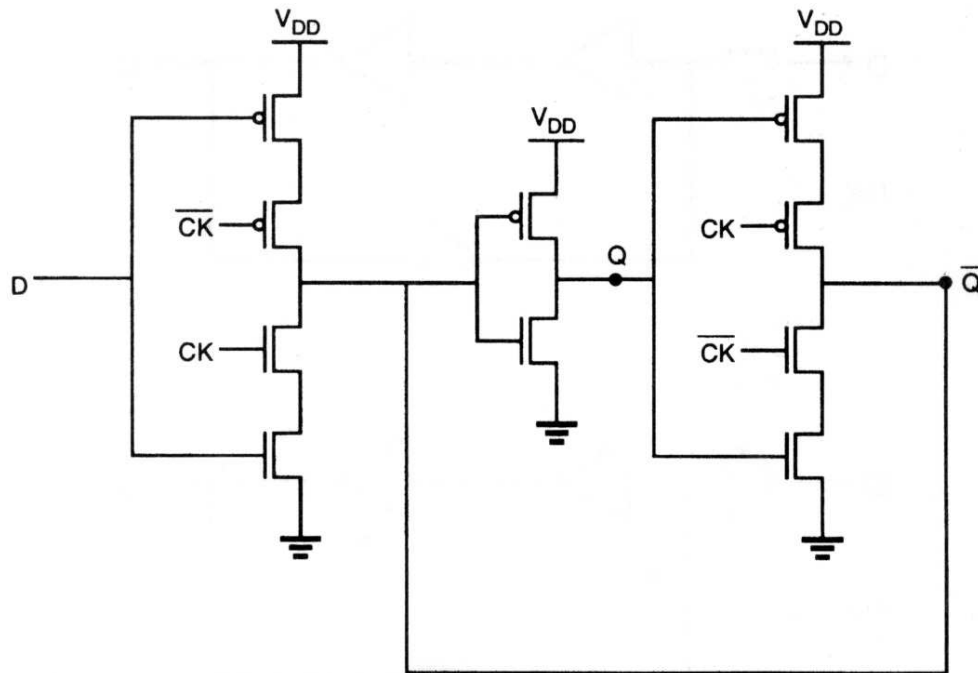

Figure 6: CMOS implementation of the D-latch
The design consists of three 4-bit registers ( $D_A$ ,  $D_B$ ,  $D_S$ ), two 1-bit registers ( $D_{C_i}$ ,  $D_{C_o}$ ), and four cascaded Full Adders (FA). The Full Adder design may be taken from Project 2. The registers are D-latches (Fig. 6) used to store input and output information.